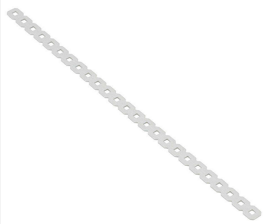

Figure 2. 1x25 Steel Bar for Tug-of-War
- Connect your robot to another group's robot using a 1x25 Steel Bar (Figure 2) so that your robot pulls in the opposite direction of the other robot when you run the code.